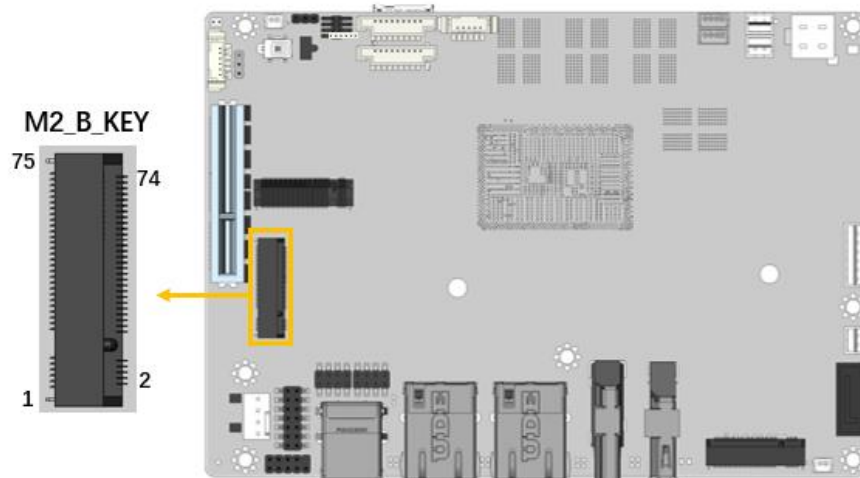

Figure 3-25: M.2 B-key Slot Location
- CN Location:** See **Figure 3-25**